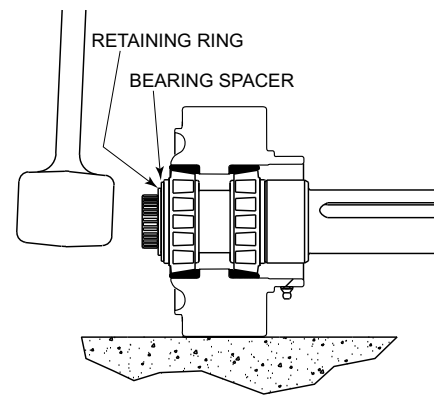

Figure 6.3.6.5 Final Assembly of Output Shaft Housing
14. Hold housing on its side and with a blunt instrument, rap on the inboard side of shaft. Reference **Figure 6.3.6.5** (next column).